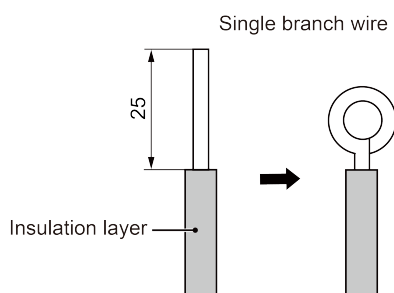

Fig. 5.1
- (1) The connection of wire (as shown in Fig. 5.1)